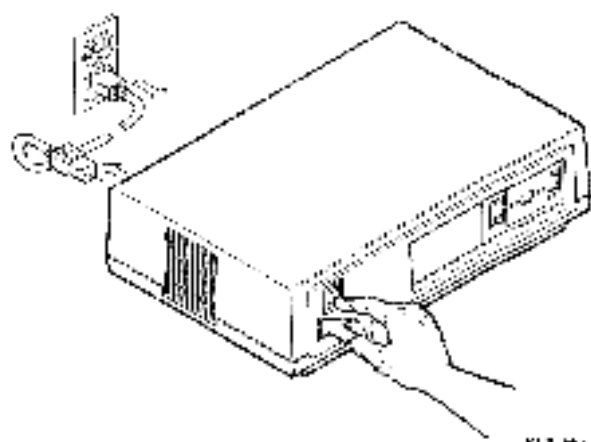

Figure 2-2 Power Switch and AC Power Cord
1. Turn the system unit power switch off and remove the ac power cord from the wall outlet and the power receptacle on back of the system unit (Figure 2-2).